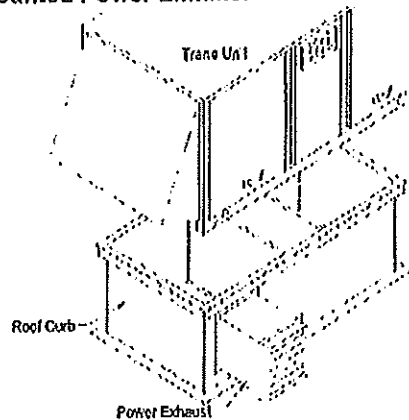

Figure 2: Curb Mounted Power Exhaust
6. For downflow applications the unit must be installed on the special ThyCurb with return air plenum end exhaust opening. (See Figure 2)